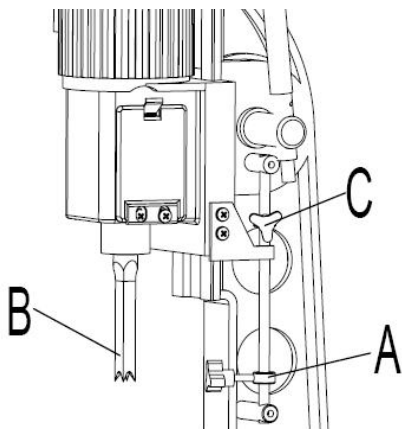

Fig. 11
A depth stop guide (A) Fig. 11, is provided to limit the depth of the chisel (B). To adjust the depth stop guide (A), loosen screw (C) and lower head (B) until the chisel (B) is at the desired depth. Lower depth stop guide (A) until